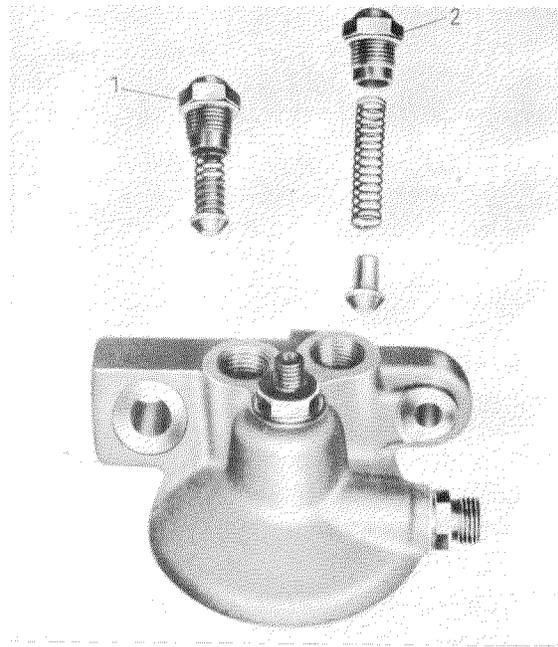

Figure 18-9/7
Install the valve cones (12) and the valve springs (11) in the upper part, then secure the screw plugs (9) with a new sealing ring (10) (see Figure 18-9/5).
2. Put the metal filter element (3) into the filter bowl (2). Then mount the outlet ring (4) on the filter bowl and secure it with the nut (5) (see Figure 18-9/5).
3. Insert the sealing ring (6) in the groove at the filter bowl (2). Only original sealing rings must be used. Then secure the filter bowl (1) to the upper part (7) with the hexagon screw (16). Do not forget the sealing ring (15) between the screw and the filter bowl (see Figure 18-9/5).
**Note:** Only the hexagon screw (16) with a length of 160 mm and a new sealing ring (15) between the bottom and the fixing screw must be used (see Figure 18-9/5). The passage for the oil pressure gauge line in the adapter (8) can be obstructed if a longer screw is used. The oil pressure gauge will then indicate incorrectly or not at all.
The opening pressure of the relief valve (8) installed in the horizontally arranged oil filter (see Figure 18-9/4) and the relief valve (2) for the metal filter element of the bowl-type filter (see Figure 18-9/7) is  $2 \pm 0.2 \text{ kg/cm}^2$  for each of the two filter designs.
**Note:** The opening pressure of the relief valve (1), which has been provided for a fine filter element to be installed in the bowl-type filter, is  $1.2 \pm 0.2 \text{ kg/cm}^2$ .
The different opening pressures of the relief valves 1 and 2 (see Figure 18-9/7) are obtained in spite of identical parts by means of the different initial tension of the springs.